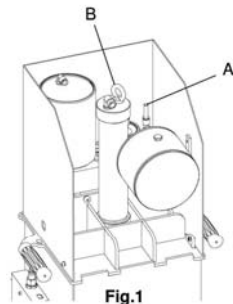

Fig.1
- 1.2 Due to the weight of the press (78kg), it shall be moved by mechanical means, for which it is fitted with an eared screw, B, as indicated in Fig.1. The handles shall only be used to facilitate minor positioning operations in the work area. However, these operations shall be performed by at least 2 operators who should take care at all times to avoid any risk of accident.